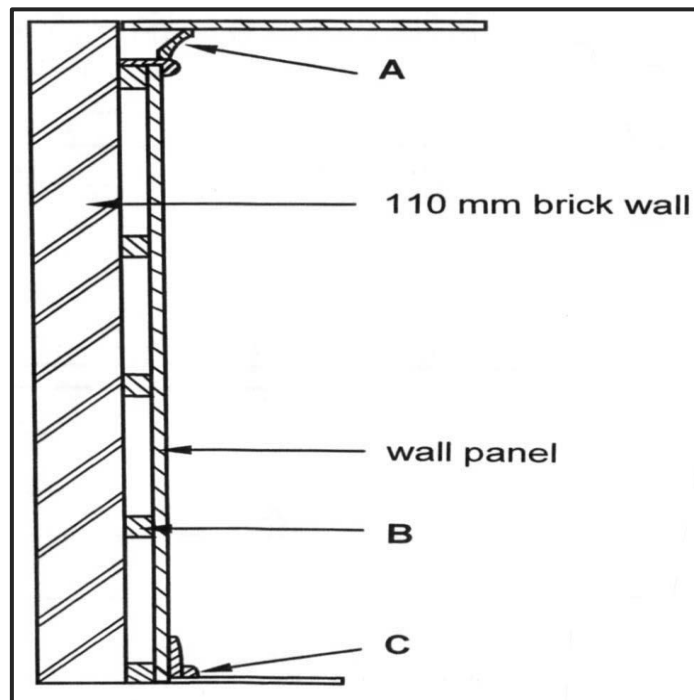

FIGURE 3.3
3.3 **FIGURE 3.3** below shows a sectional view of a tongue and groove wall panel from the floor to the ceiling, fastened to a 110 mm thick wall. Study the picture and answer the questions that follow.